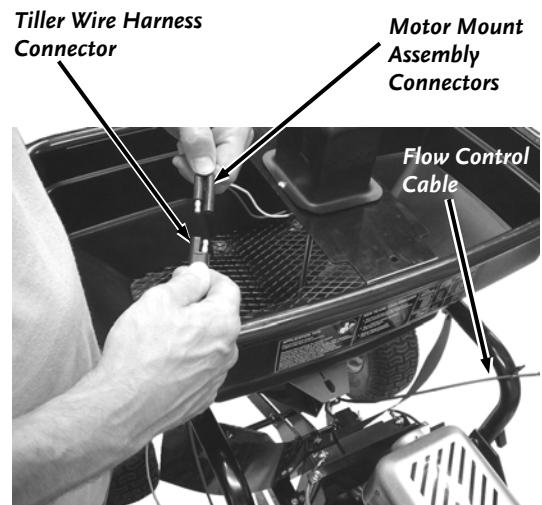

Figure 13
2. Attach the Spreader Cable Connector to the Motor Mount Assembly Connectors (**Figure 13**).